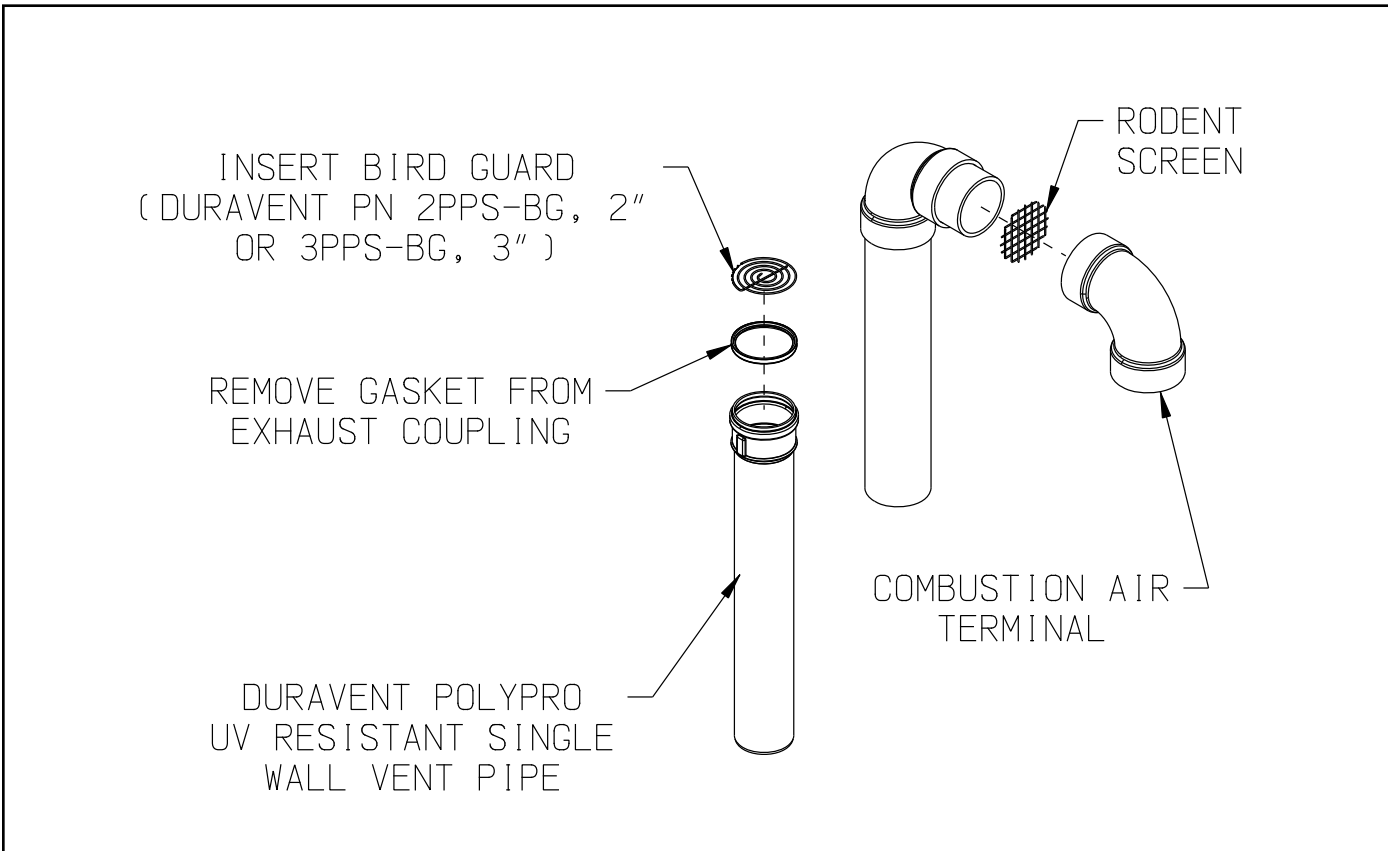

FIGURE 7.37: INSTALLATION OF DURAVENT POLYPRO UV RESISTANT SINGLE WALL VERTICAL TERMINAL
- a. See Figure 7.37 for the proper orientation of twin pipe vertical terminals.
- c. A 180° bend (or two 90° elbows) are installed on the top of the air intake pipe. If two 90° elbows are used, the rodent screen provided can be installed between them (Figure 7.37). If a 180° bend is used, install the rodent screen in the open side of the bend, using a ring made of PVC pipe. If desired, the termination fittings can be attached to the end of the intake pipes with field supplied stainless steel screws so that they can be later removed for cleaning and inspection. If this is done, drill a clearance hole in these fittings and a tap hole in the end of the intake pipes to accept these screws.